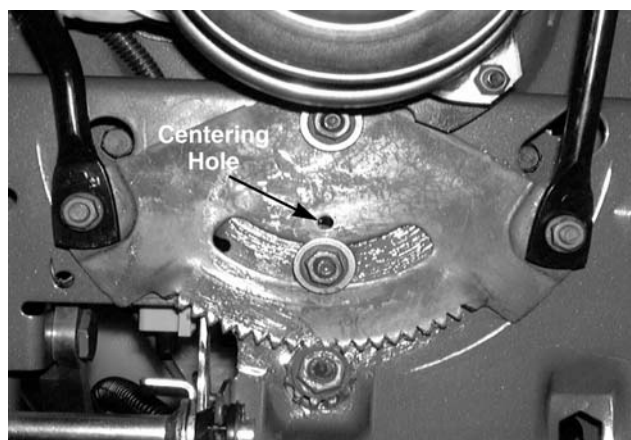

Figure 9-63
5. Line up the centering hole in the steering gear with the centering hole in the support plate, and insert a 1/4" Phillips screw driver up through both. See Figure 9-63.